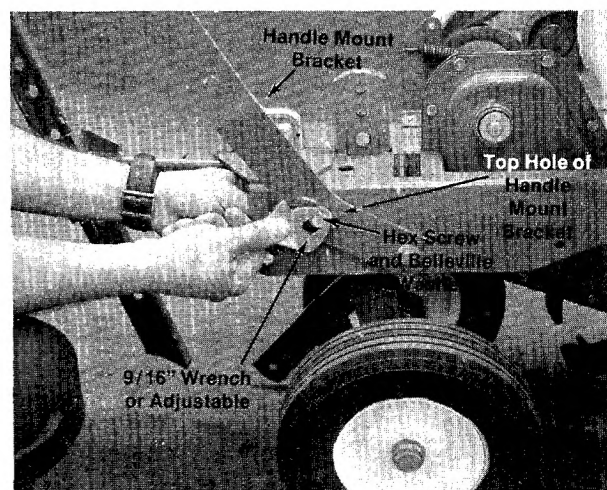

FIGURE 7.
This tiller is a variable speed unit. Any movement in the handle (after assembly) may change your speed. The handle mount brackets **must** be as tight as possible. See figure 7.
- Secure with lockwasher (Q) and hex nut (R) on the inside of chassis. See figure 7.